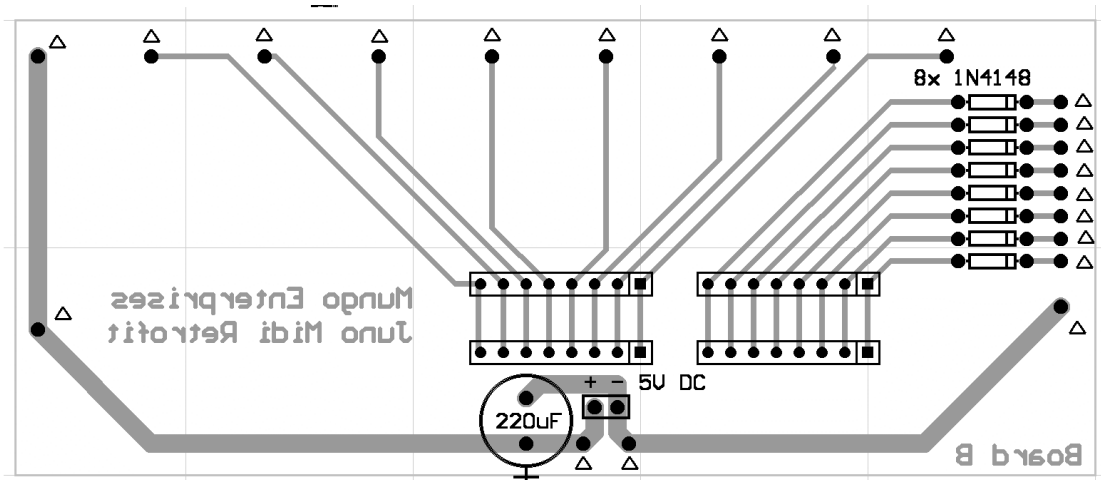

Figure 1
1. Place the board copper side up and solder a 25mm piece of tinned copper wire vertically in each of the 21 points designated with a triangle in Figure 1. These will provide the link between the two boards when fully assembled.